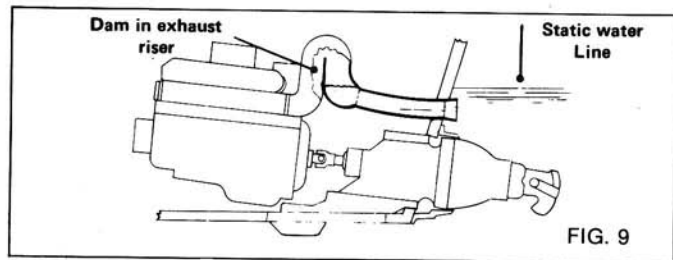

FIG. 9
A. When launching your boat, **do not** back the trailer in at a fast pace and "hit the brakes" to "shoot the boat off the trailer". This launching technique could force water up the exhaust port and into the engine which could cause severe damage to the engine. The flappers in the exhaust ports and the risers on the exhaust manifold are designed to prevent this from happening under normal use. (See figure 9).